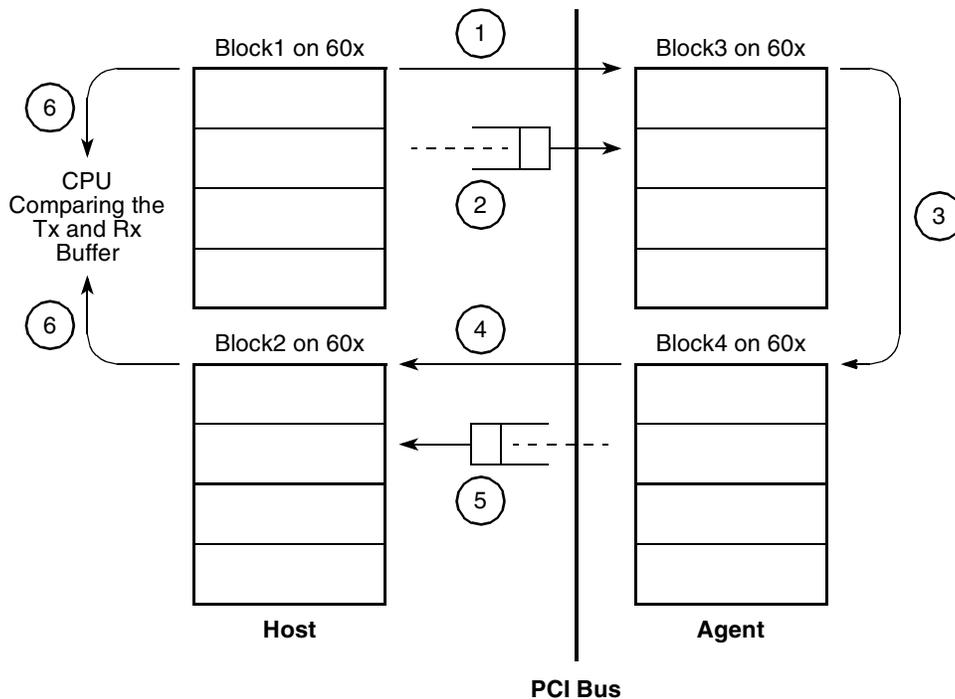
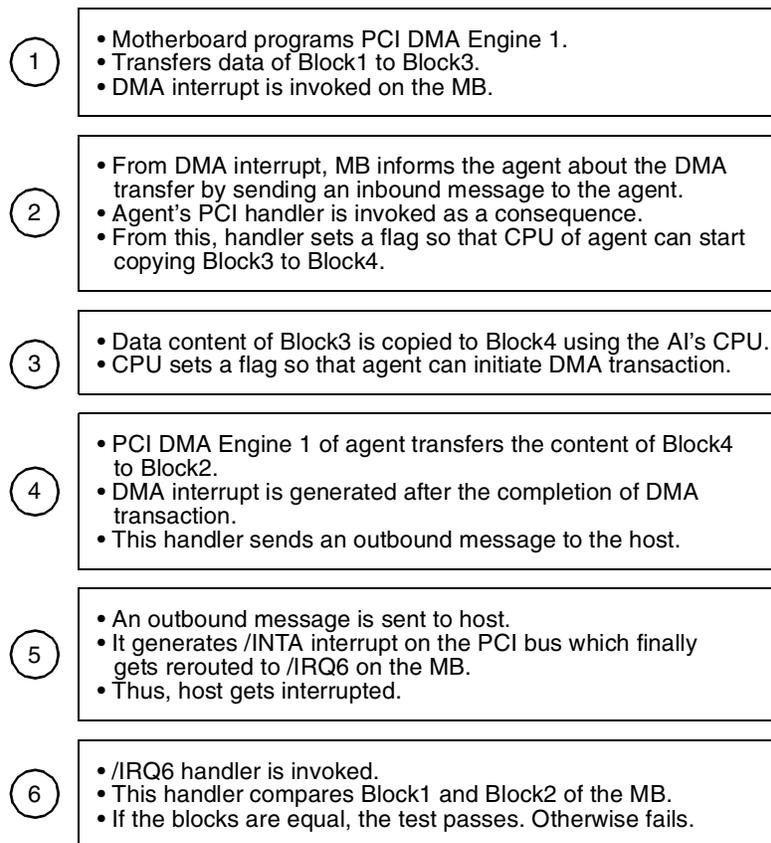

Figure 1. Data Flow Diagram
Figure 2. Execution of Example Code
This example demonstrates the PCI features of the PowerQUICC II™ (PQII) processors. The host or the motherboard (MB) prepares four buffers (block 1 in Figure 1) each with predefined data patterns. Then the PCI DMA Engine 1 of the motherboard transfers the four buffers to the add-in (AI) 60x bus. After the DMA transfer is over, the host sends an inbound message to the agent to inform that four buffers in block 1 have been transferred to block 3.
At this time, the agent receives the PCI interrupt and processes the inbound message. Now the agent knows that it received four buffers of data (block 3 in Figure 1) from the host. The agent's CPU copies block 3 to block 4. Note that at this point block 1, block 3, and block 4 all have the same data content.
In Figure 2, the execution of the example code is described in a sequential manner. The numbers correspond to the numbers in Figure 1.
It is clear from Figure 1 that in the demo data is moved from motherboard 60x memory to add-in 60x memory and vice-versa across the PCI interface. The general guideline for moving data across the PCI interface is as follows: